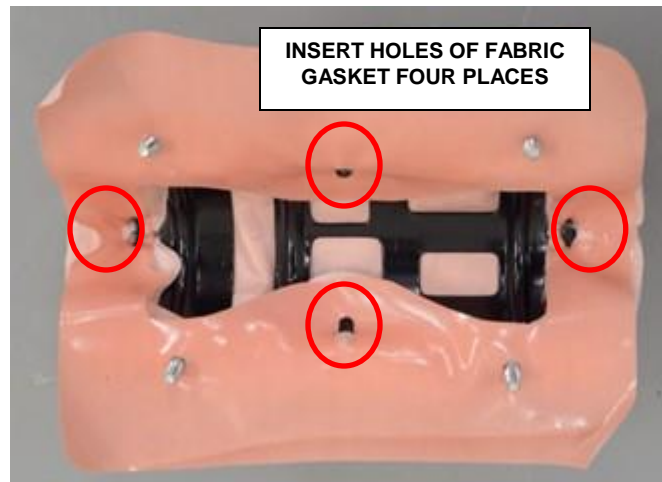

Figure 30 – Fabric Gasket
- i. With the help of a trim tool insert the holes of fabric gasket, four places (Figure 30).